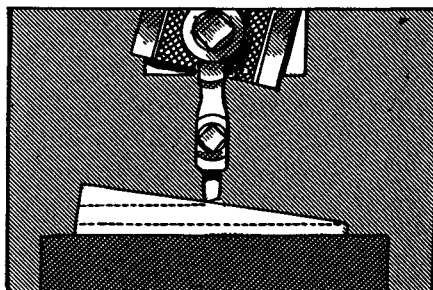

FIG. 373
12. Set the cut for $1/4$ ", or 250 thousandths, on the graduated dial (Fig. 373). The depth of the cut may be increased, if necessary, consistent with the power of the machine and the rigidity of the work.